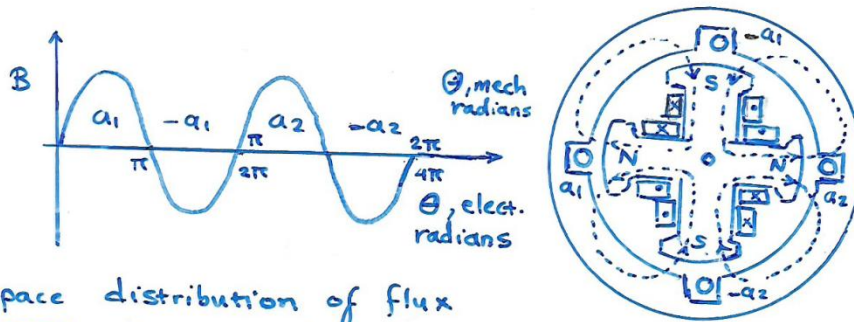

Fig. 3. space distribution of flux density in a 4-pole synch. generator
- Multi-pole machines: In general, many synch. m/cs have more than 2-pole. For example Fig. 3 shows a 4-pole single-phase alternator (synch. m/c). The field coils are connected so that the poles are alternate north and south polarity. The armature winding consists of two coils $a_1, -a_1$ and $a_2, -a_2$ connected in series by their end connections. The frequency of the induced e.m.f is now.